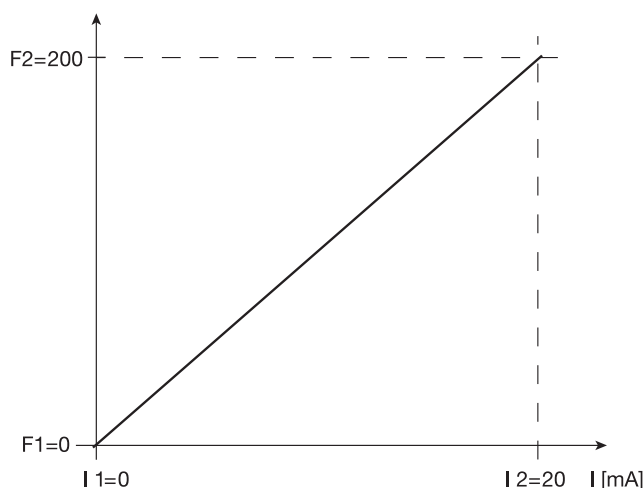

Fig. 21: How the straight line for “Concentration input” in the mode “Analog” has to look like
- ▶ Set  $I_1 = 0\text{mA}$  and for  $F_1 = 0$  strokes/min because the straight line has to pass through zero (0/0) (see Fig. 21).